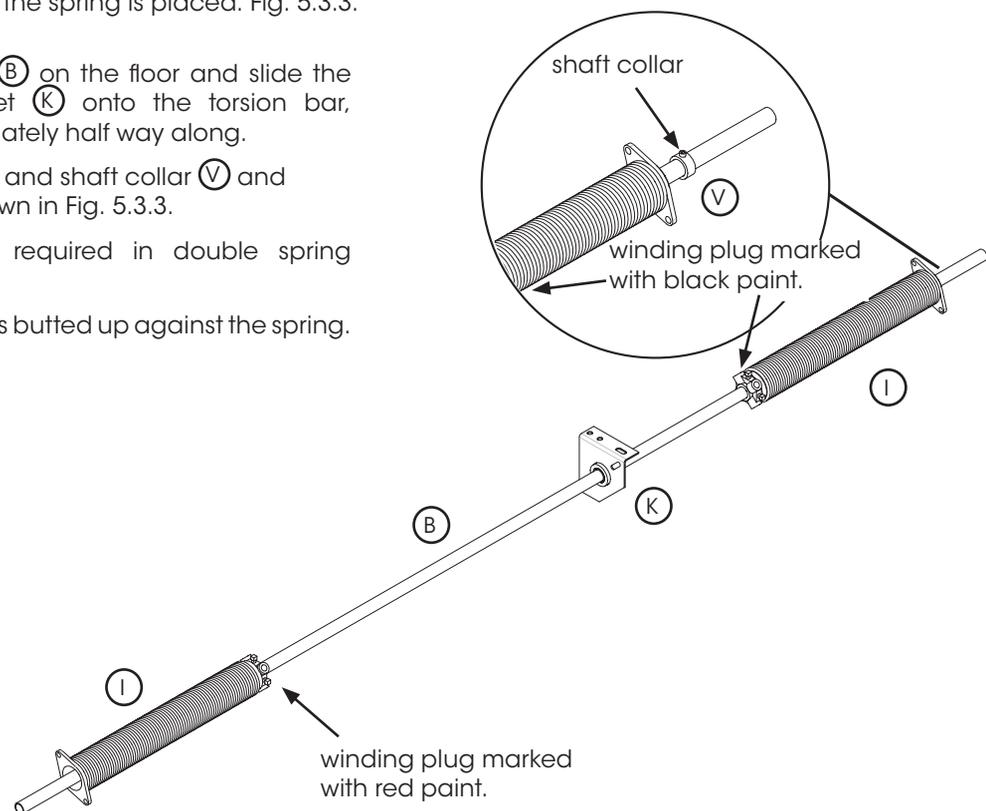

Fig: 5.3.3
The springs and drums for the counterbalance system are now colour coded to easily identify which side of the centre bracket the spring is placed. Fig. 5.3.3.
- Place the torsion bar (B) on the floor and slide the spring anchor bracket (K) onto the torsion bar, positioning it approximately half way along.
- Locate the spring/s (I) and shaft collar (V) and assemble them as shown in Fig. 5.3.3.